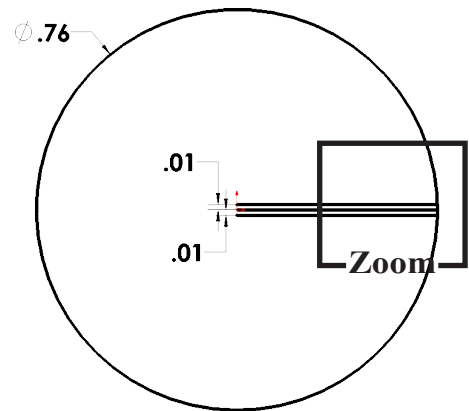

Fig. 6
Step 1. Zoom in on **lines at intersection of circle**, Fig. 6. To zoom, place the cursor over the intersection and spin the wheel on mouse back. While spinning the wheel keep cursor on intersection.